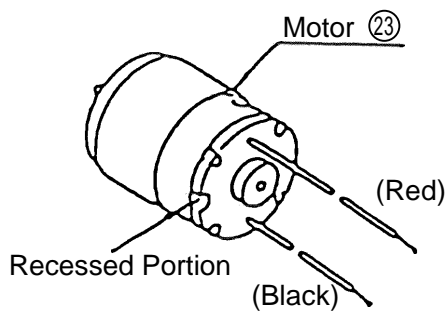

Fig. 10
- (i) Ensure that the recessed portion of the Motor ㉓ is properly aligned with the rotation stopper portion of the Housing (A) (B) Set ㉔. (Fig. 10)